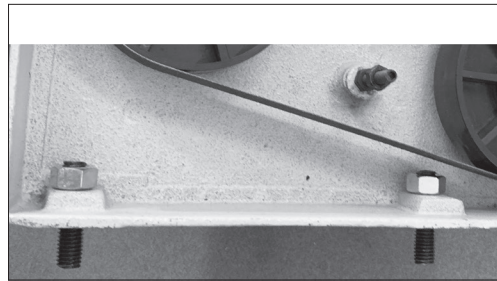

FIG. 2A
3. At the bottom of the cast iron frame's base, insert the two Threaded Screws (#91) into the threaded holes and fasten a Hex Nut (#4) onto the top of each (FIG. 2A).